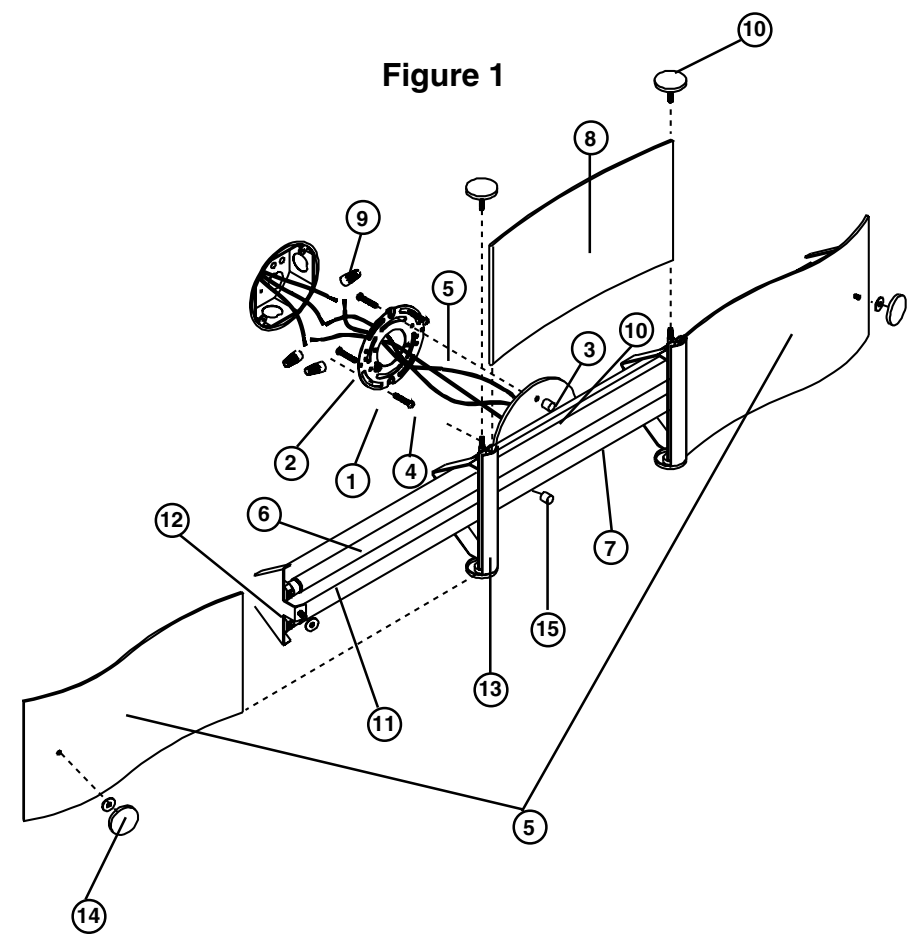

Figure 1
1. Remove fixture components and parts pack(s). Check that all parts are included. **See Figure 1.** Remove packing material. Warning: Safely dispose of packaging materials.